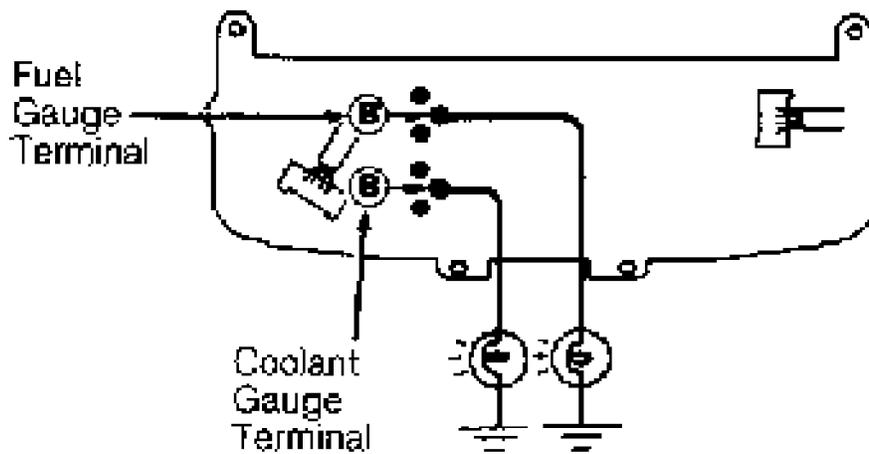
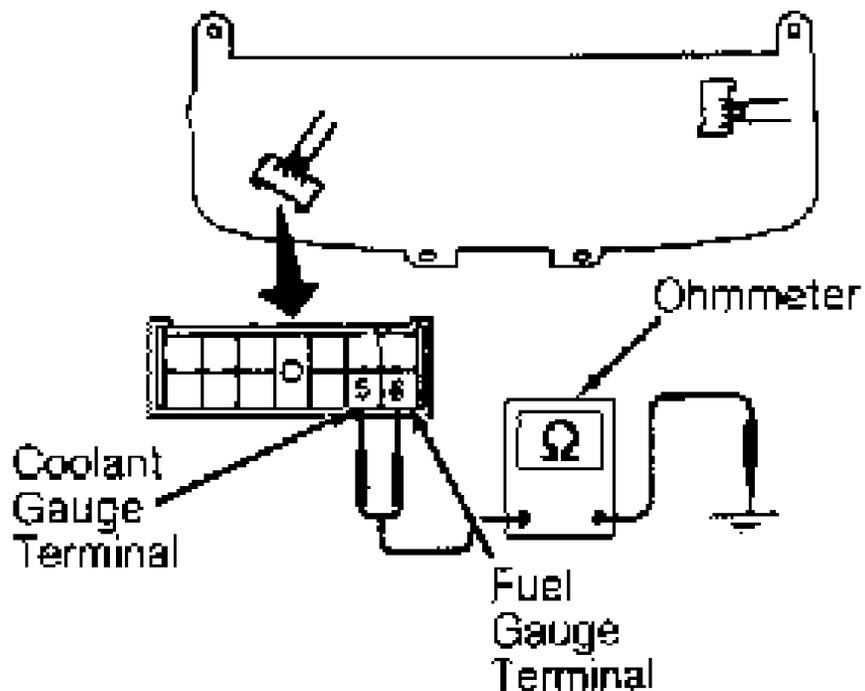

Fig. 16: Testing Fuel & Temperature Gauges (G20)
Fig. 17: Check Resistance Between Instr. Cluster Terminal & Ground (G20)
3) Turn ignition switch on. Connect a test light with 3.4 watt bulb between fuel gauge terminal "B(1)" and ground. See Fig. 16. If gauge needle does not move smoothly to FULL, replace gauge. If needle moves smoothly to FULL, check continuity between instrument cluster terminal No. 6 and ground. See Fig. 17.
3) Turn ignition on. Connect a test light with a 3.4 watt bulb between temperature gauge terminal "B" and ground. See Fig. 16. If gauge needle does not move smoothly from COLD to HOT, replace gauge. If needle moves smoothly from COLD to HOT, check continuity between instrument cluster terminal No. 5 and ground.